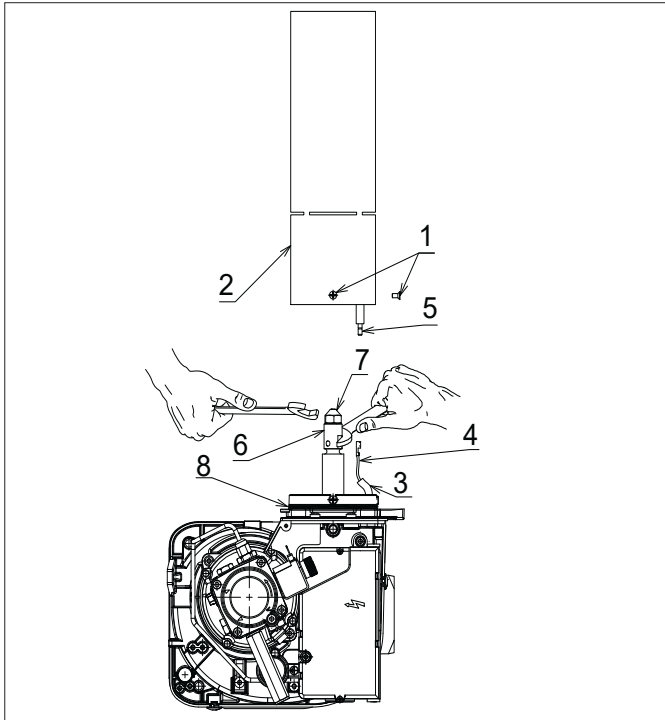

Figure 10-2: Burner head and nozzle holder
1. Remove the burner head. Refer to Figure 10-2. Unscrew and remove the two fixing screws (1) and carefully separate the head (2) from burner.
2. Refer to Figure 10-2. Disconnect both ignition leads (4) from the electrodes (5) and also the lead from the flame ionisation probe.
- Carefully slide the insulation sleeve (3) down the lead and away from the metal connectors.
3. Check the nozzle (7) is correct for the required boiler output. Refer to Table 2-2 for the correct nozzle size and type for the required boiler output.
4. Use a 16 mm spanner to remove/re-fit the nozzle (7), whilst holding the nozzle holder (6) using a 17 mm spanner.
6. Reconnect the leads to the electrodes and flame ionisation probe, as follows. Refer to Figure 10-2.
- First, ensure the insulation sleeve (3) is slid down the lead and is not covering the metal connector.
- Firmly push the metal connector (4) on to the electrode (5) or flame ionisation probe.
- Carefully slide the insulation sleeve (3) up the lead to fully cover the metal connector (4).
7. Re-fit the burner head. Refer to Figure 10-2.
- Locate the head fixing screws (1) in the countersunk slots in the burner collar.
- Tighten the two screws (1) to secure the head (2) in position on the burner.